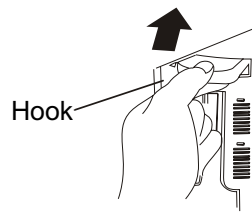

Figure 2
(4).Push the upper part in as indicated in Figure 2.